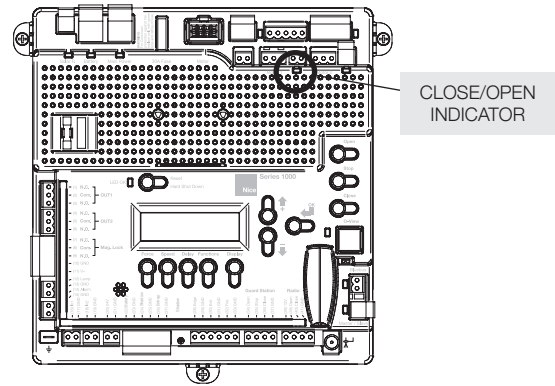

Figure 12 - INDICATOR LIGHT
8. Using the CLOSE button on the front of the Control Board, hold the CLOSE button down until the gate reaches the fully intended closed position. Once the gate is in the FULLY INTENDED CLOSED position on the UPPER CAM (see figure 12) and adjust the CLOSED Limit Switch CAM until the RED light illuminates on the front of the control board. The FULLY CLOSED limit switch is now set. Holding it firmly in place, use the supplied allen wrench to tighten the set screw.
9. During the course of initial setup, a fine adjustment of the limit switch may be required. Each limit switch CAM has a fine adjustment screw built in to allow the installer to make very small incremental adjustments to ensure the gate reaches the exact position desired. This feature is used after operating the gate to fine tune the exact stopping point. See step 7 in Figure 11 and Figure 12.